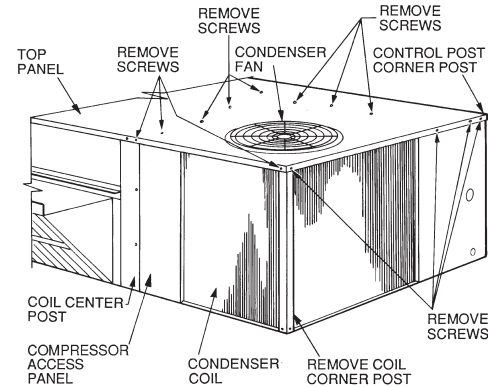

Fig. 12 – Cleaning Condenser Coil
3. Remove the condenser coil corner post. See Fig. 12.